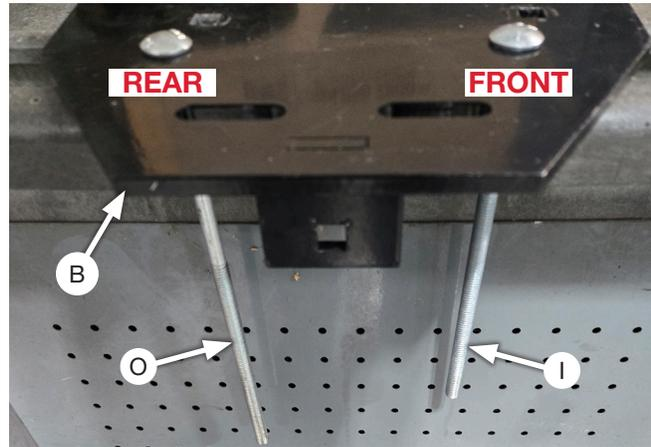

Fig. 12
- Insert one (1) 3/8"-16 x 10" carriage bolt (O) through the rear remaining square hole and (1) 3/8"-16 x 8" (I) through the front remaining square hole in the lower bracket (B), both sides will be a mirror of each other. (Fig. 12)